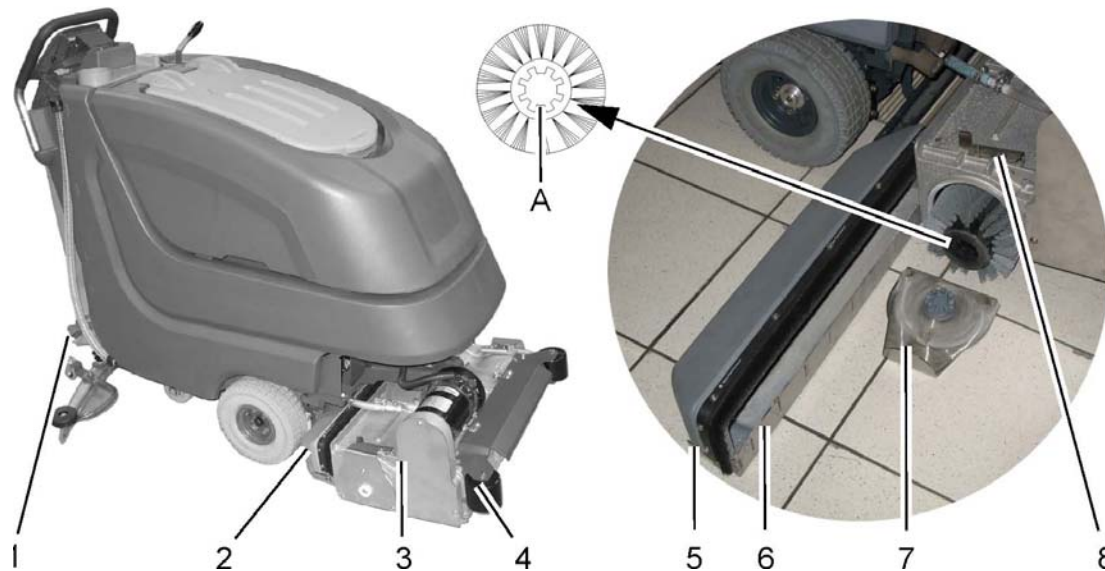

Fig.11
Clean dirt hopper (Fig. 11/2) at daily intervals or as required. Remove dirt hopper from the right machine side (seen in direction of travel). Use quick-release (Fig. 11/5) to loosen feed inlet (Fig. 11/6) and clean dirt hopper.
1. Lift up cylindrical brush deck (Fig. 11/3) by pedal (Fig. 11/1).
2. Release brush seating (Fig. 11/7) by locking lever (Fig. 11/8).
Check roller bumpers (Fig. 11/4) at weekly intervals and replace if required.